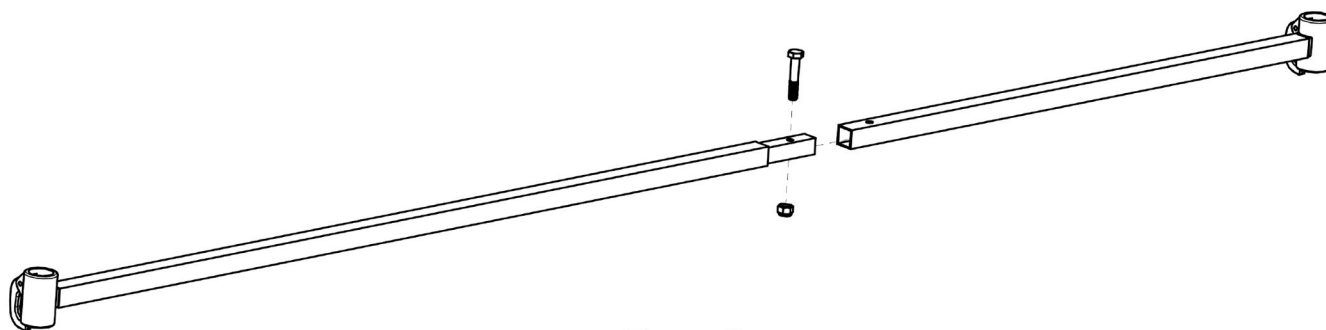

Figure 6
Step 6. Assemble the 3 long shooting rails using $\frac{1}{4}$ " x 1" bolts and $\frac{1}{4}$ " nuts. No washers under the head of bolts or under the nuts as seen in Figure 6.